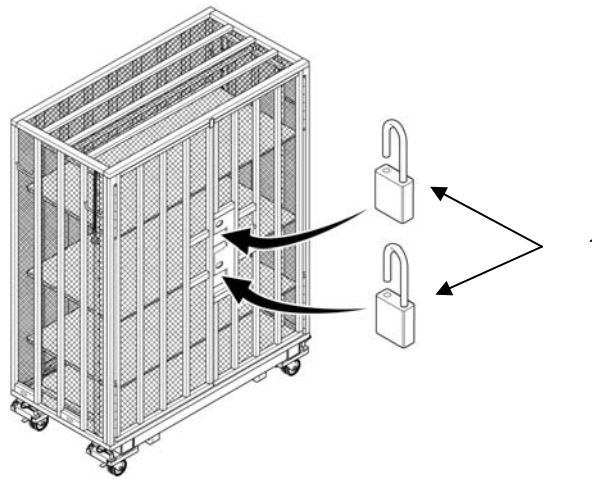

Figure 3-21. Removing Padlocks from the Supply Cage.
4. Remove padlock(s) (Figure 3-21, Item 1). Place the padlocks back on the door after opening for safekeeping.